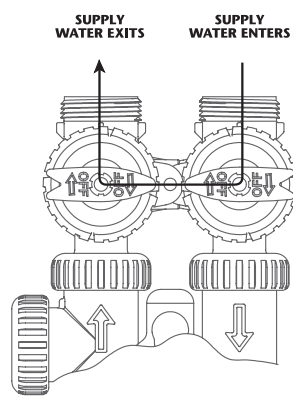

FIGURE 2
2. **BYPASS POSITION:** The inlet and outlet handles point to the center of the bypass. The system is isolated from the water pressure in the plumbing system. Untreated water is supplied to the building (**Fig. 2**).
1. Rotate bypass handles to the bypass mode (**Fig. 2 on page 4**).
1. With the softener in the bypass mode (**Fig. 2 on page 4**) and the control valve in normal operation where the display shows either the time of day or the gallons remaining, manually add 3" of water to the regenerant tank.